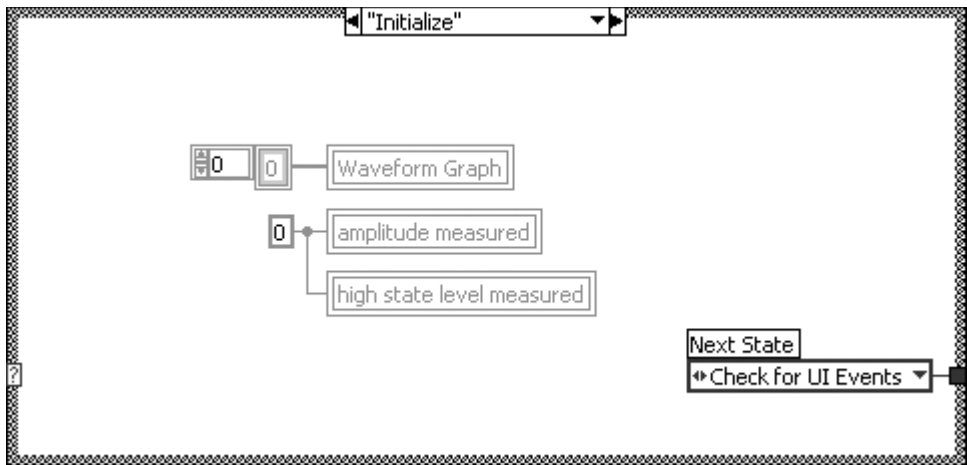
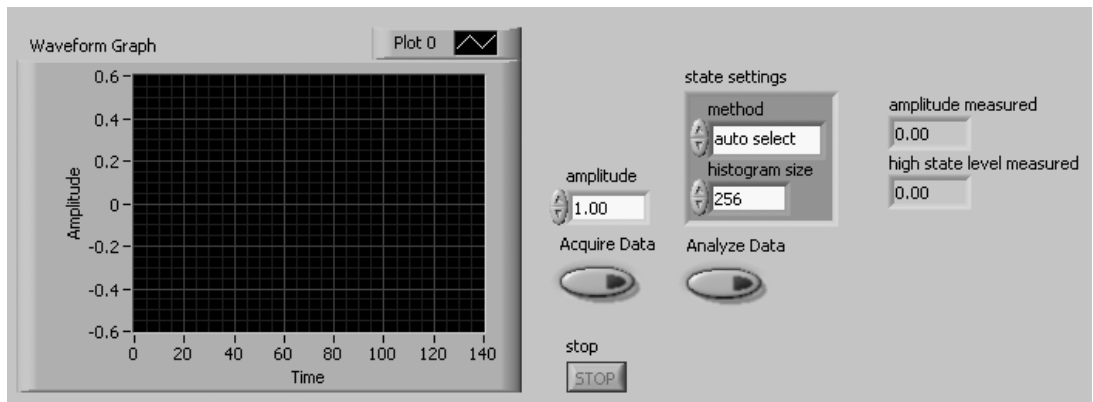

Figure 13.77
Figure 13.78
14. Modify the “Initialize” case, adding code that writes initial data to the local variables of the waveform graph and signal measurements, as shown in Figure 13.77. Note that the array constant is an empty array. You can ensure that it is empty, by selecting **Data Operations>>Empty Array** from its pop-up menu. Your front panel should now look similar to Figure 13.78.